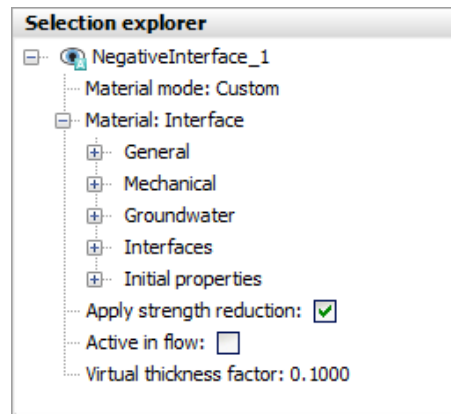

Figure 3–4: Interface material assignment in Selection explorer
- 14 Multi-select the top and the curved surface. Right-click on the selected surfaces and select the option **Create > Create rigid body** from the appearing menu (see Figure 3–5 \(p. 65\)).